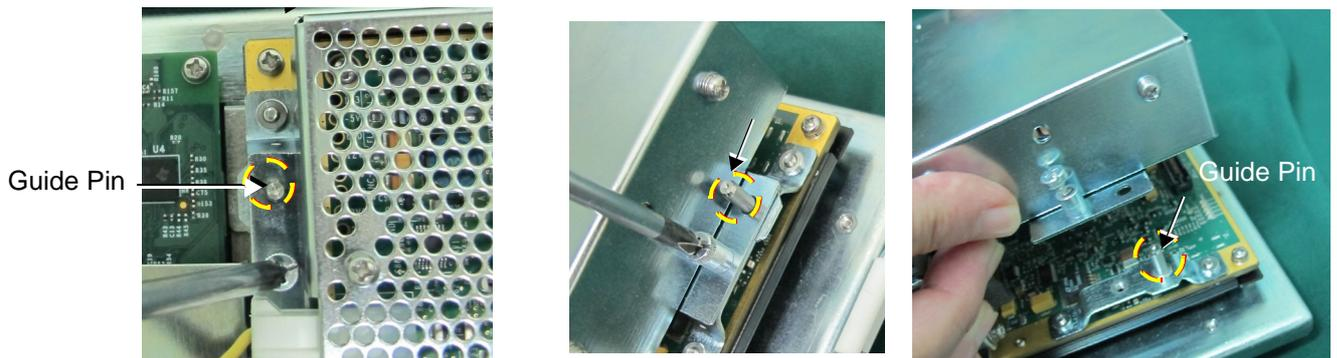

Figure 8-163 Removing the FEPS Metal Cover
3) Loosen the 2 retaining screws that secure the FEPS to the Front End door assembly and gently lift the plate away from the guide pins located on either side of the FEPS as shown in Figure 8-163.